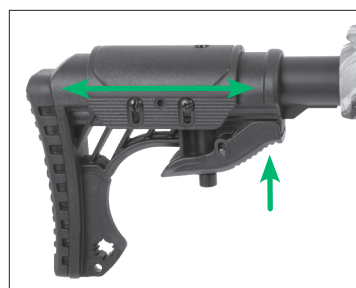

FIGURE 9
**To adjust the butt stock** (Part 25), press the lever found on the bottom front of the stock, as seen in Figure 9. While the lever is depressed, slide the stock from position 0 (shortest) to 5 (longest). Position numbers are viewable from the top of the crossbow, through a hole through the cheek piece. Release the lever to lock the butt stock into place.